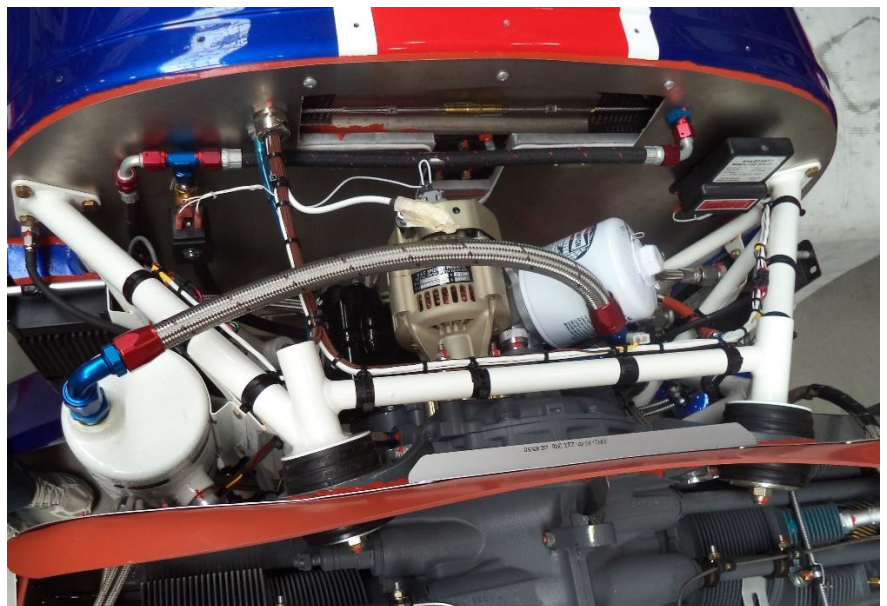

Figure 1: Exchanged hose assembly
3. Exchange this hose with the delivered hose assembly Parker P/N 124012F200C040 (MS8005-H200F040) in accordance with Figure 1.